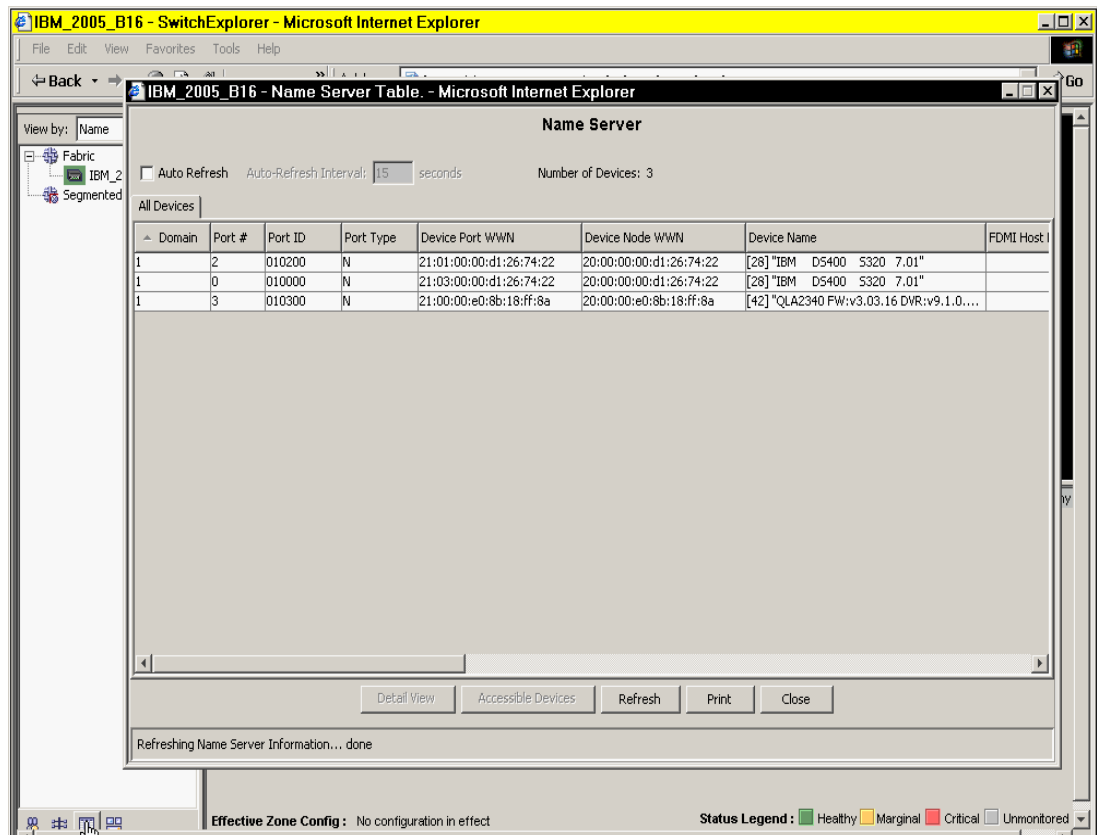

Figure 19 Switch Name Server Table
8. Create the host aliases, using the same process. To decipher the hosts, consult the sticker you placed on the back of each HBA. If you did not place a sticker on the back of each HBA, use the switch Name Server Table, which is a table-like icon, second from the right in the bottom-left corner of the main fabric admin console. See Figure 19.